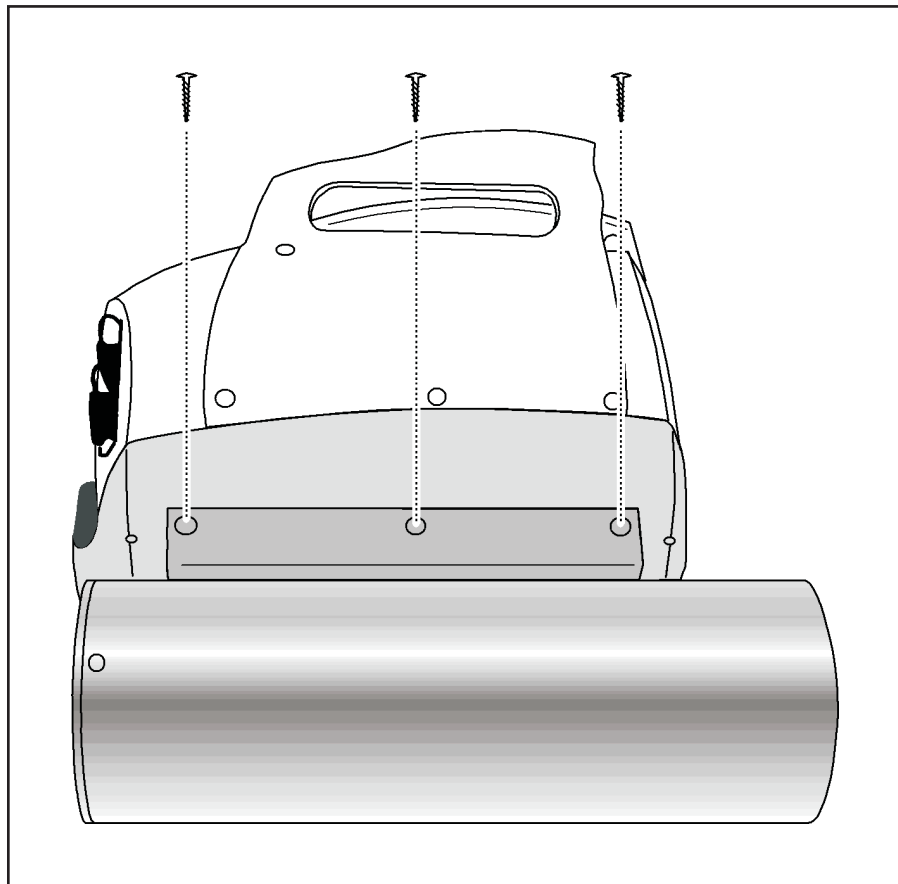

Figure 100 Removing the Probe's Mounting Screws
3. Remove the three mounting screws that secure the Neutron Probe (Figure 100).